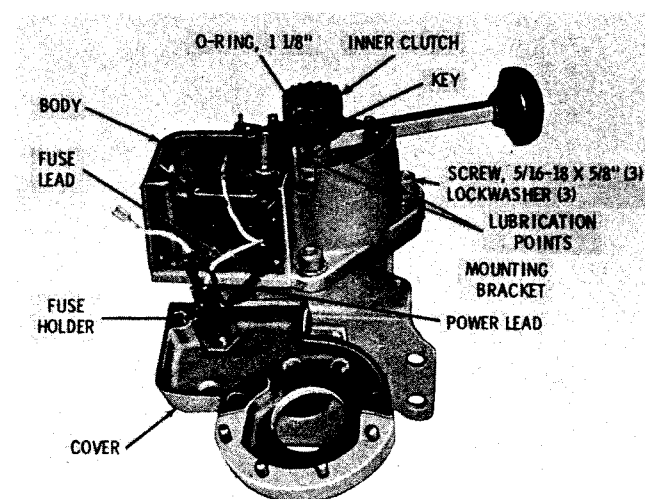

Fig. 4-10. Shift tower assembly with inner clutch exposed
(13) Pull the cover from the body (fig. 4-10). Remove the heat-shrink tubing from the power lead terminals. Disconnect the terminals. Disconnect the fuse lead.
(14) Remove the fuse holder from the cover only if replacement is necessary (fig. 4-10).
(15) Remove three socket-head screws and lockwashers that retain the body (fig. 4-10). Remove the body, and its attached parts, from the mounting bracket.
(16) Remove O-ring 20 (foldout 2) from the mounting bracket. Remove 4-pin connector 35 from the body only if replacement is necessary.
(17) Remove O-ring 3 from inner clutch 2. Remove pin 46 from inner clutch 2. Remove inner clutch 2 from rotary key 39.
(18) Remove nut 13 from pin 38. Remove pin 38 from rotary key 39. Remove handle 16 and knob 17 from rotary key 39. Remove leveler 4 and spring 5.
(11) When shim adjustment is completed, remove the selector body to complete its assembly.
(12) Install the 9/16-inch O-ring into the groove of the rotary key. Lubricate the rotary key and O-ring lightly with Texaco Marfak No. 2 (or equivalent) grease. Put a small quantity of grease into the spring recess of the rotary key. Install spring 5 and leveler 4 (both coated lightly with Marfak No. 2 (or equivalent) grease) into the rotary key. Install handle 16 (and spacer 15, if used) into the slot of the rotary key. Push threaded pin 38 through the holes in the rotary key and handle 16 (and spacer 15, if used). Secure the pin with nut 13. Tighten the nut only enough to eliminate end play of the pin. Do not bind movement of the handle in rotary key 39.
(13) If either a new rotary key 39, or a new inner clutch 2, or both, are installed, a drilling guide (fig. 4-16) is required. Install inner clutch 2 (foldout 2) onto rotary key 39 until the rotary key bottoms in the clutch. Install the 1 1/8-inch O-ring onto the inner clutch (fig. 4-10).
(17) Install the assembled body section of the shift tower assembly onto the assembled switch section (fig. 4-10). Install three 5/16-18 x 5/8-inch socket-head screws, and lockwashers, to retain the two sections.
(18) Install the fuse holder into the body cover (fig. 4-10). Retain it with the nut. Connect the fuse lead (coming from M in the 16-pin connector, through the 4-pin connector) to the single lead of the fuse holder. Connect the power lead (coming from the lead in the 4-pin socket that connects to the common terminals of switches 1 and 5 to the black lead of the fuse holder. Lightly lubricate the O-ring on the inner clutch with Texaco Marfak No. 2 (or equivalent) grease.